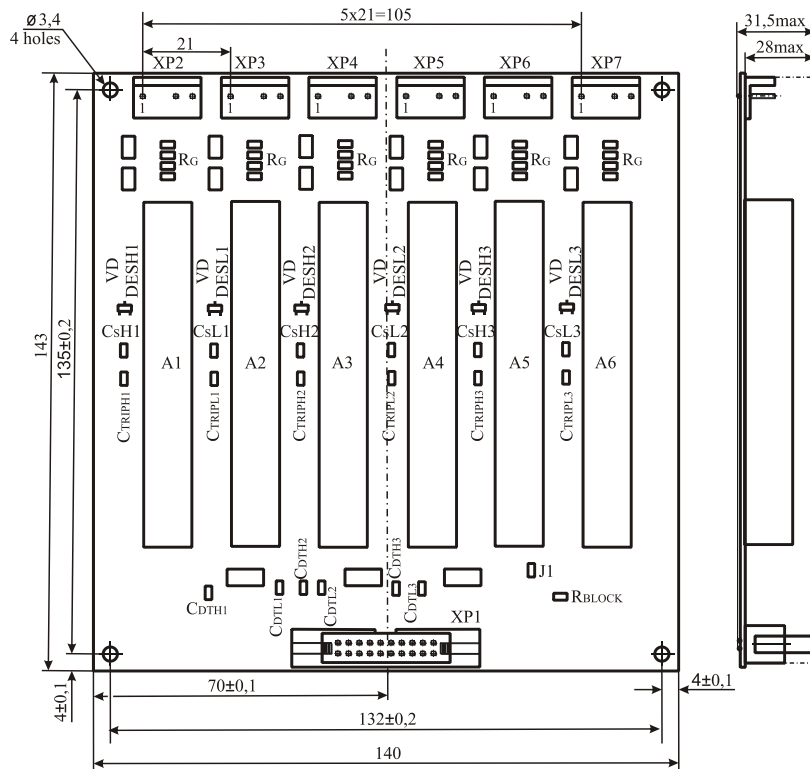

Figure 1 – Driver dimensional drawing
3.1 Dimensional drawing is shown on Figure 1, functional diagram is shown on Figure 2, connection circuit is shown on Figure 3.